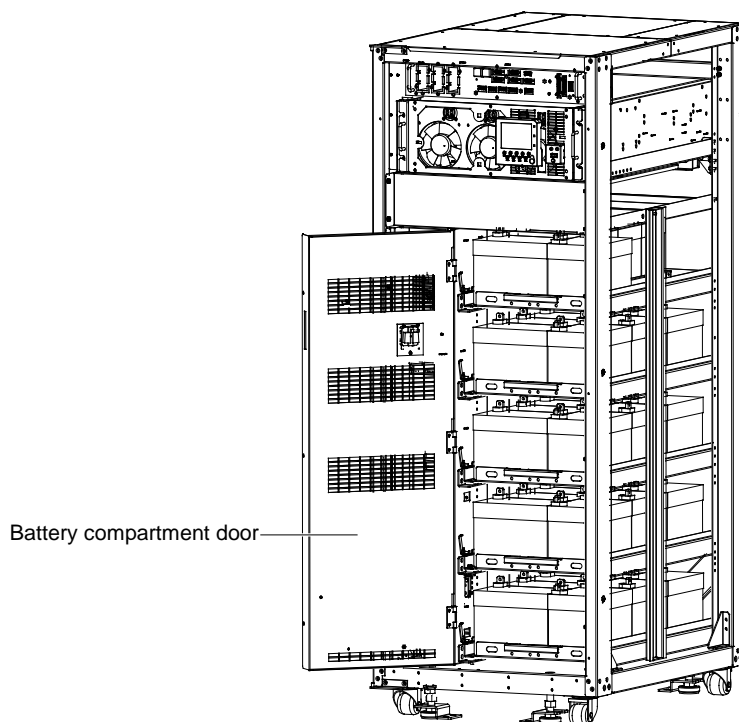

Figure 8-4 Opening battery compartment door
2. Open the cabinet front door, remove the screws to open the battery compartment door (see Figure 8-4), and reserve the removed screws.